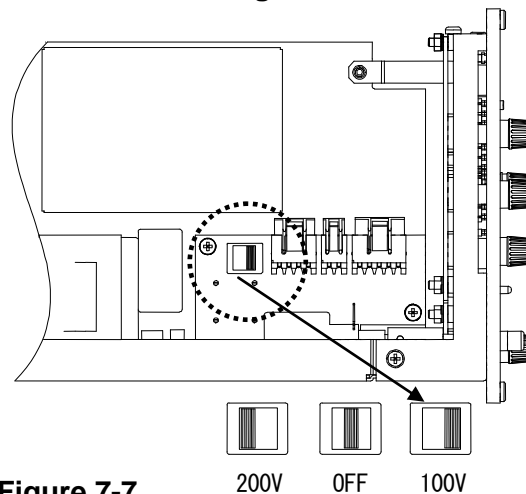

Figure.7-7
3. The AC power supply selection switch is positioned at the location shown in Figure 7-7. Selection to 200 VAC, OFF, and 100 VAC is available. Voltage switching is available by sliding the switch to the target voltage position. The fuse can support both 100 VAC and 200 VAC. The installed fuse (100 VAC/200 VAC, 100 mA: 0334-3006) can therefore be used for both supply voltages.